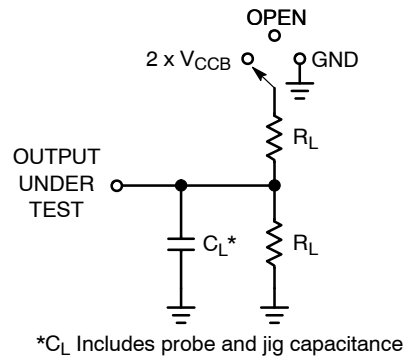

Figure 3. AC Test Circuit
5. Propagation delays defined per Figure 3.